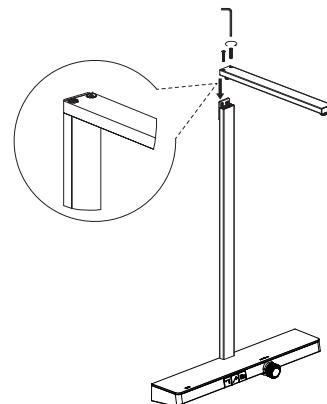

Figure 2
- e) Install the arm pipe and secure it by Allen key (Figure 2).